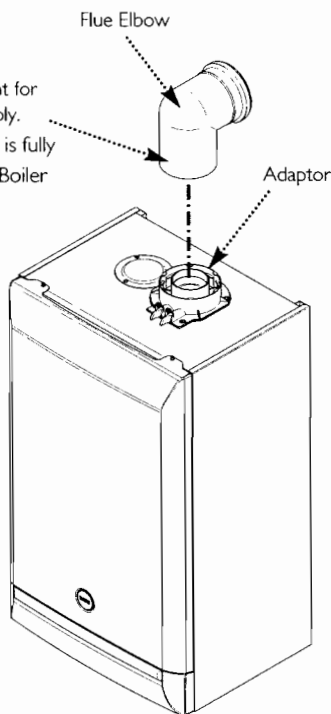

Fig. 22
3. Locate the flue elbow on the adaptor at the top of the boiler. Set the elbow to the required orientation (Fig. 22).